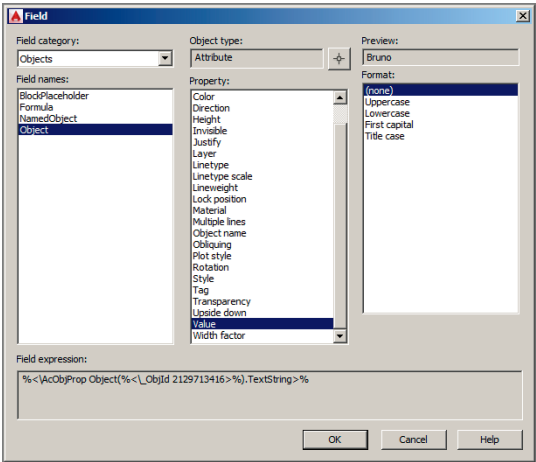

FIGURE 15.22 Accessing the attribute value in the Field dialog box
3. In the Property list that appears, select Value (see Figure 15.22). Click OK. The word Bruno appears in table cell A3.